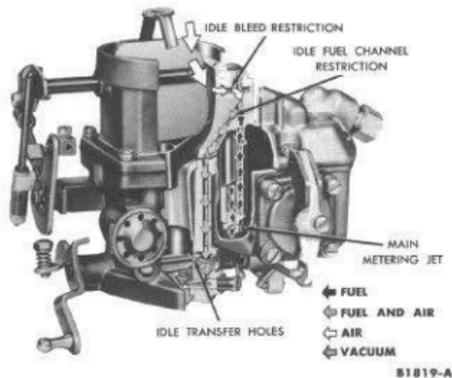

FIG. 29—Idle Fuel System
**IDLE FUEL SYSTEM.** The idle system (Fig. 29) functions when the